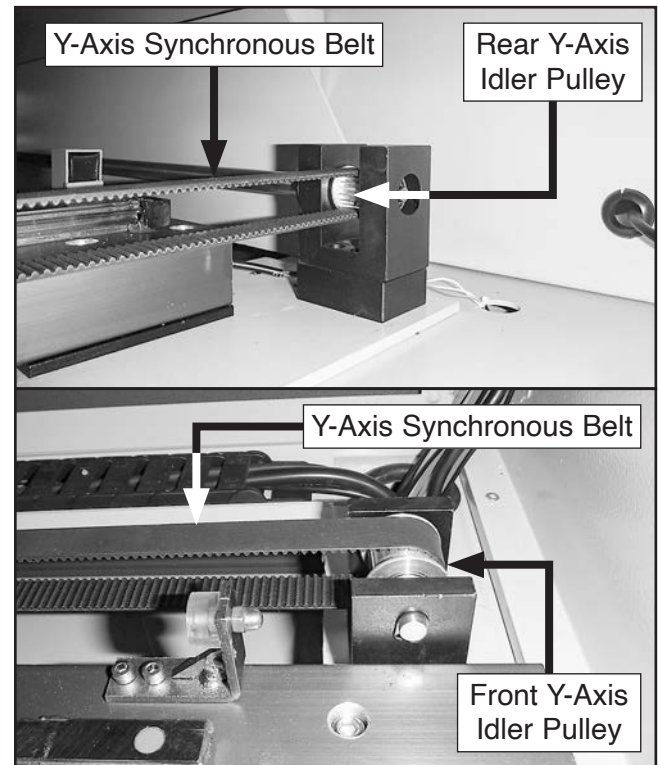

Figure 84. Front and rear Y-axis idler pulley locations.
6. Remove belt from idler pulleys on front and rear of support rail, then remove belt from machine (see **Figure 84**).